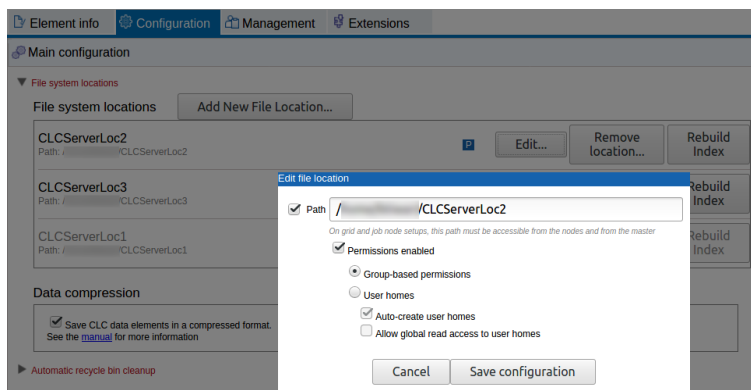

Figure 3.3: When the *Permissions enabled* box is checked, permissions-related settings become visible. Here, *group-based permissions* have been enabled.
**Permissions enabled** When this box is checked, permissions can be configured for that location (figure 3.3).